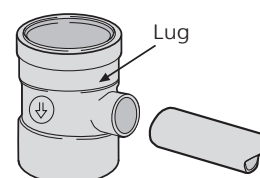

Fig.27a 120.4 Single Bosses Pipe Connector
**120.4 Single Bossed Pipe Connector** (all socket) (Fig.27a)